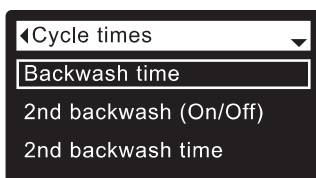

FIG. 130
5. Press the SELECT (O) button to display the Cycle times menu (See Figure 130).
9. Press the SELECT (O) button. The display will go back to the Cycle times menu (Figure 130).